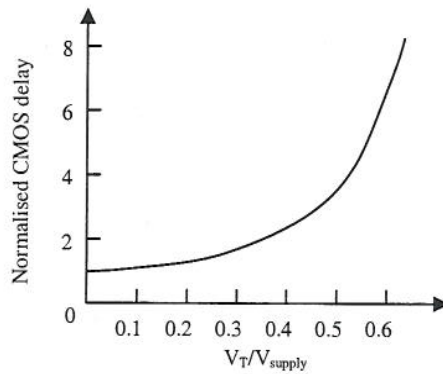

Figure 5: Gate delay/stage of a 1.5V CMOS inverter versus the threshold voltage-supply voltage ratio.
Given fig.5 and your answer in b), explain why there is little performance to be gained by scaling the supply voltage below 1V. [4]
c) From b) we know that if we reduce the threshold voltage, the off-currents will increase. This will limit the minimum value for the threshold voltage. If we would decrease the supply voltage whilst having to keep V_T at a minimum but non-zero value, we would limit the gate voltage swing and thus the gate overdrive $V_{GS}-V_T$ degrading performance. From fig.5 we also see that the gate delay increases rapidly when the ratio V_T/V_{supply} increases leading to no gain in performance via further downscaling of V_{supply} . [4]